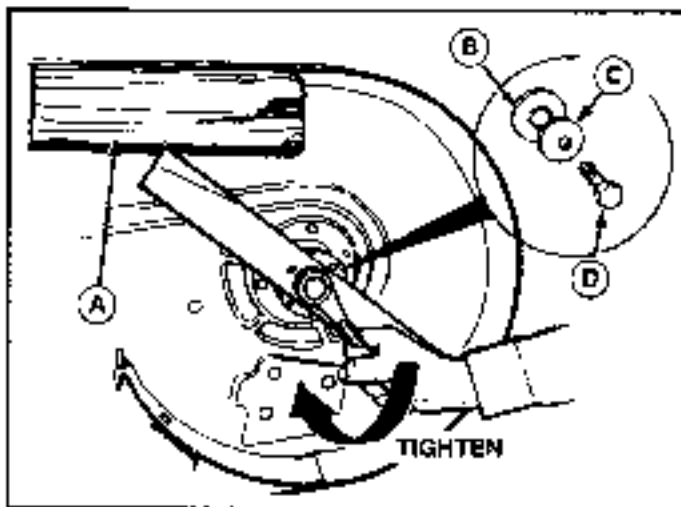

Figure 25. Installing The Blade
6. Reinstall each blade with the tabs pointing up toward deck as shown in figure 25. Secure with a cap screw (D), cup washer (C) and spline washer (B). Use a wooden block to prevent blade rotation and torque cap screws to 50-70 ft. lbs. (67-95 N.m.).